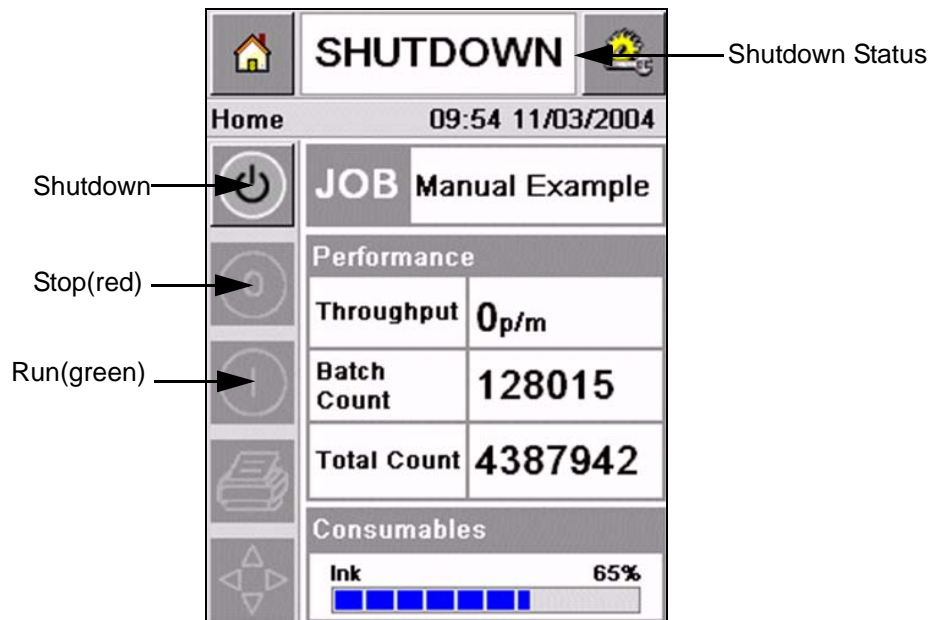

Figure 4-2: Home Page
- 3 When the self-diagnostic checks are complete, the CLARiTY[®] Home Page appears (refer to Figure 4-2 on page 4-2).
- 5 During the SHUTDOWN status, the Stop (red) and Run (green) buttons (Figure 4-2) are disabled (in grey color).